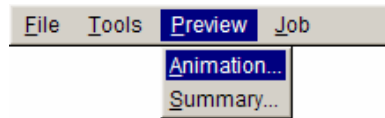

Figure 3.36 Animation menu
1. Select **Preview**→**Animation...** in the menu bar. See Figure 3.36.